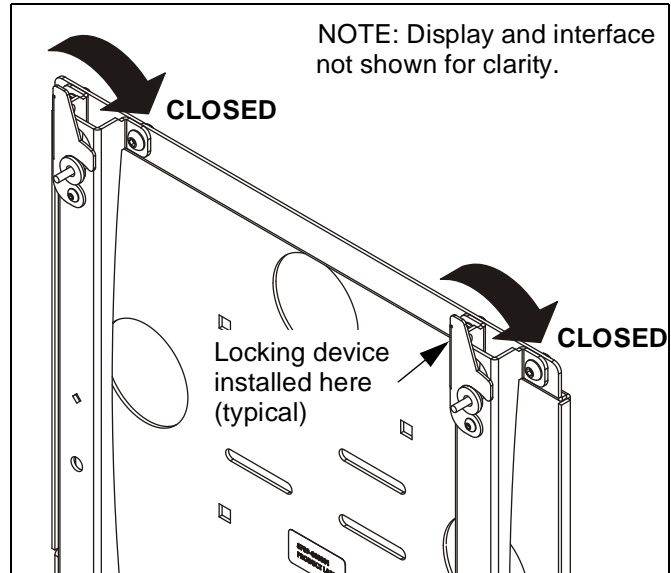

Figure 4: Close Q-Latch
4. Rotate both Q-Latches to the CLOSED position (See Figure 4).